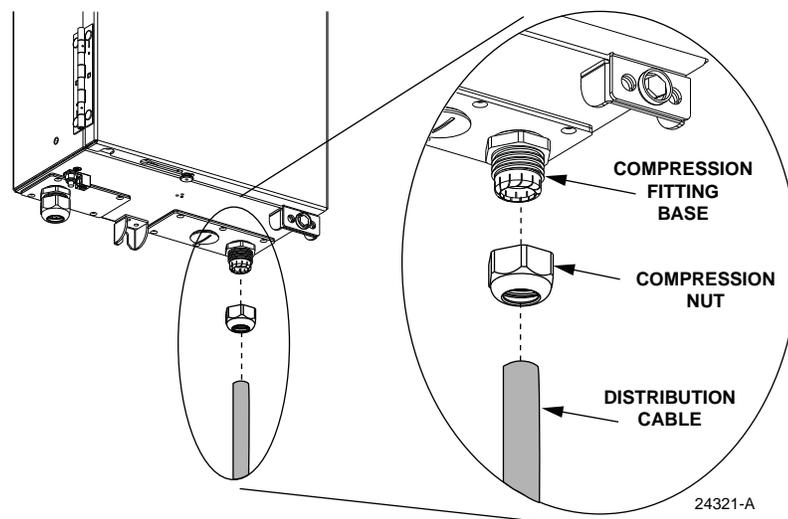

Figure 26. Distribution Cable Compression Fitting
1. Locate the compression fitting (on the bottom of the cabinet) that is specified for distribution cable installation as shown in Figure 26.